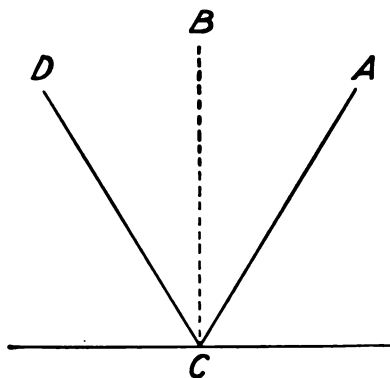

FIG. 60. — The ray AC is reflected as CD .
ray (AC , Fig. 60) which falls upon the mirror is called the incident ray, and the angle which the incident ray (AC) makes with the perpendicular (BC) to the mirror, at the point where the ray strikes the mirror, is called the angle of incidence. The angle formed by the reflected ray (CD) and this same per-